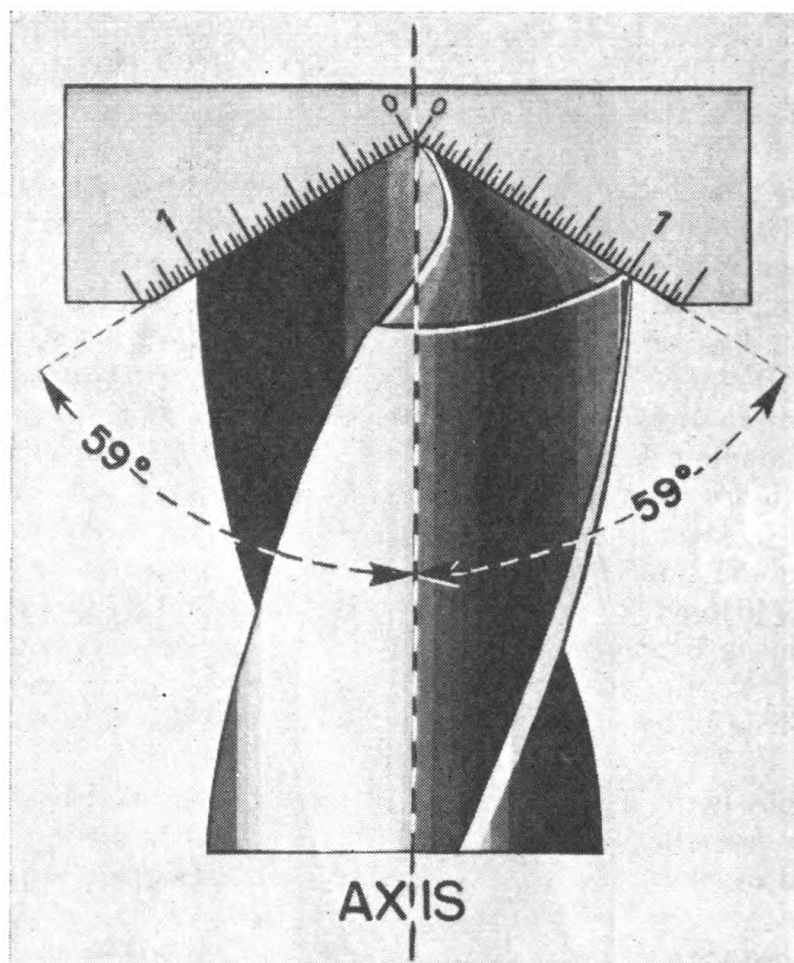

FIGURE 44.—Correctly ground drill lips.
c. Grinding the lips or cutting edges.—It has been learned by experience that for work on steel or cast iron, the lips of a twist drill should be the same length and ground to a 59° angle, as shown in figure 44. If the angle is more than 59° the point will be too flat to center properly; if less than 59° the hole will be drilled less rapidly than it should be, and more power will be required to drive the drill. If the point is on center but the cutting edges ground at different